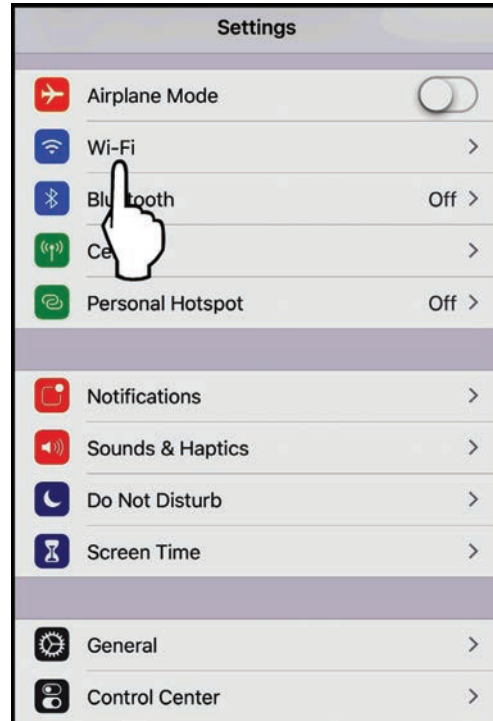

Figure 24. Select Wi-Fi Network
6. Select the Wi-Fi network on the Settings menu. See **Figure 24**.